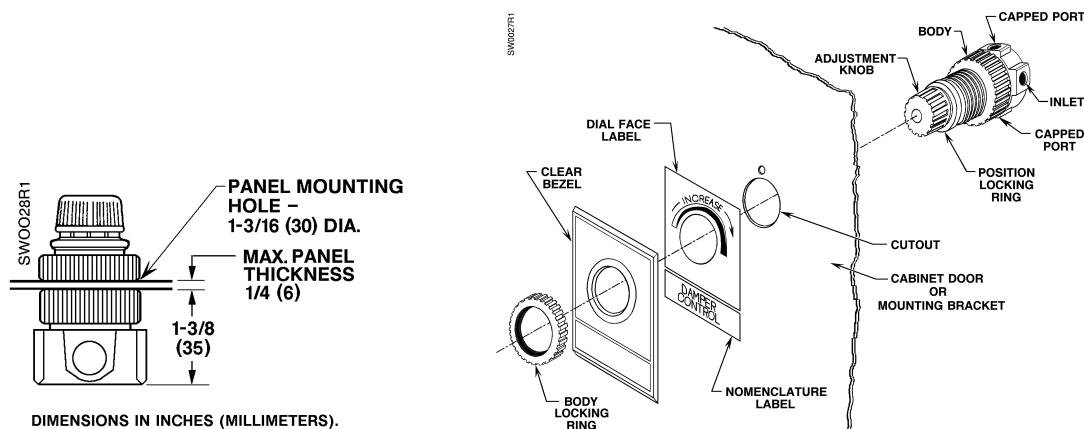

Figure 2. Mounting the SW 141 Positioning Switch.
4. Unscrew the body locking ring. Insert the switch body through the panel knockout from the back of panel. See *Figure 2*.
6. Unscrew the body locking ring. Insert the switch body through the opening from the back of the bracket. See *Figure 2*.